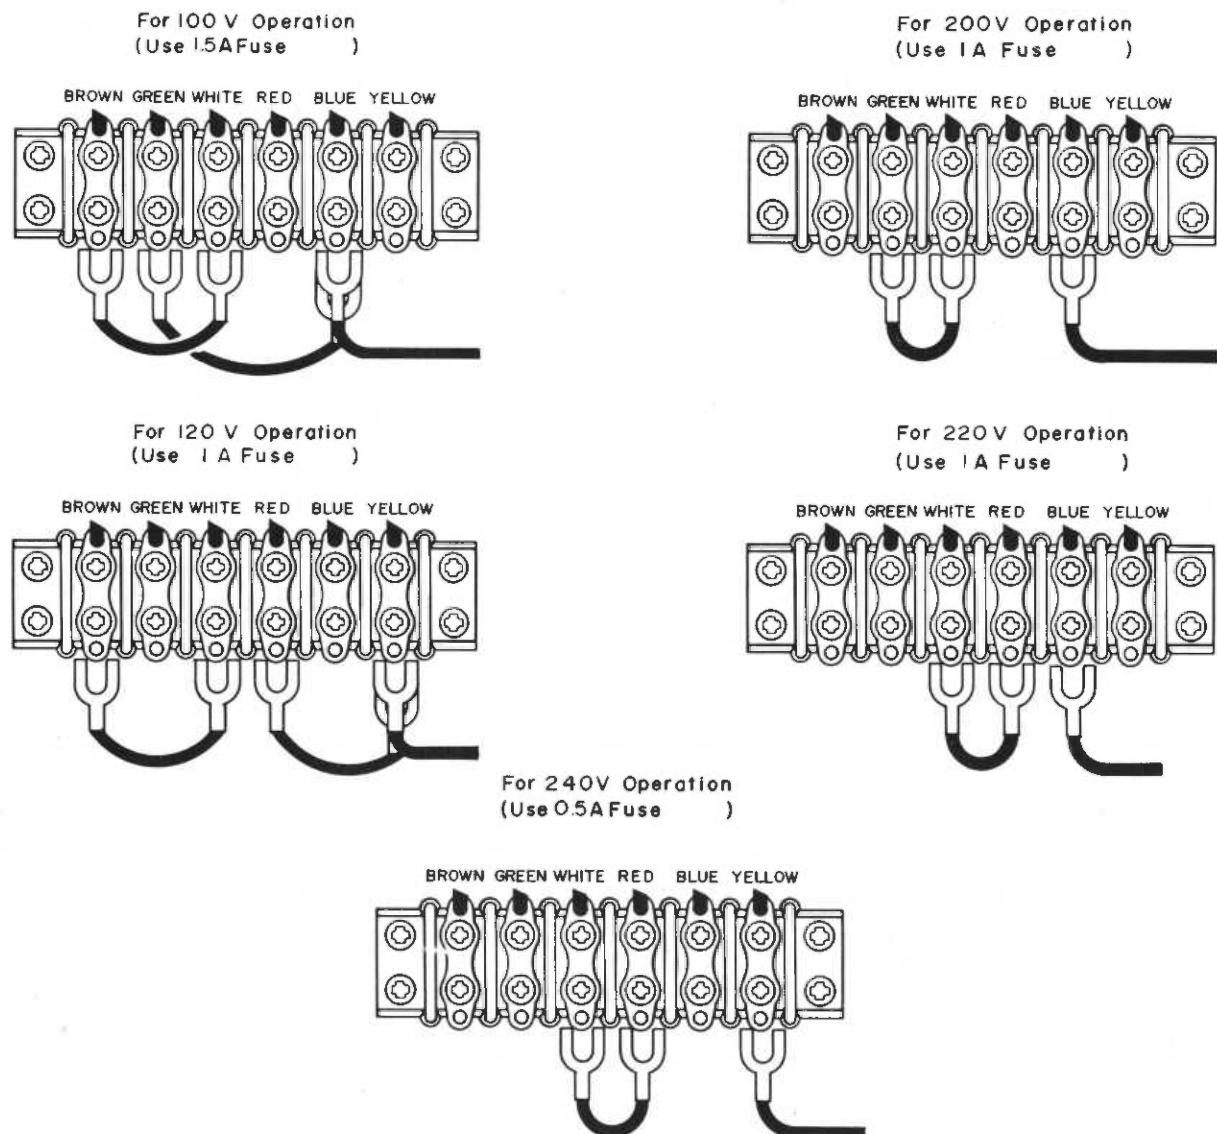

Figure 2. Voltage Conversion Chart
- (3) Change the jumper wires as illustrated in Fig. 2, for the required AC voltage and replace the fuse as instructed.